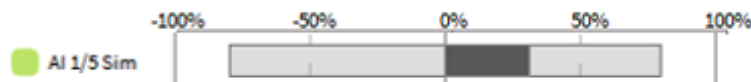
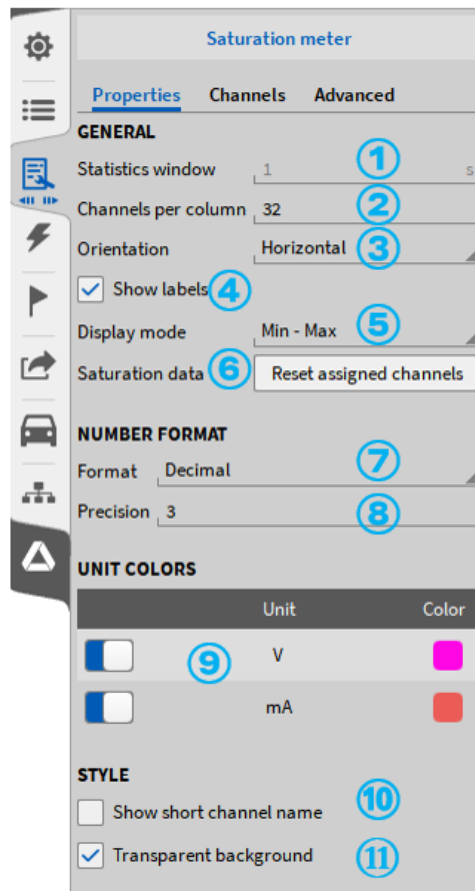

Fig. 8.16: Display of saturation within saturation meter
Fig. 8.17: Saturation meter instrument settings
Fig. 8.16 shows how the saturation will be visualized within the instrument. The minimum and maximum saturation of the channel will be displayed in light grey, whereas the minimum and maximum saturation of the channel's latest statistics window will be displayed in dark grey. Furthermore it is possible to set different colors for the visualization of the channels with the same unit (see ⑧ in Fig. 8.17). Please note that the total saturation values of the channels are only available in live and recording mode and the latest statistics values can be delayed by up to one interval since the underlying calculation for the relevant data might not be available at the time of the update.